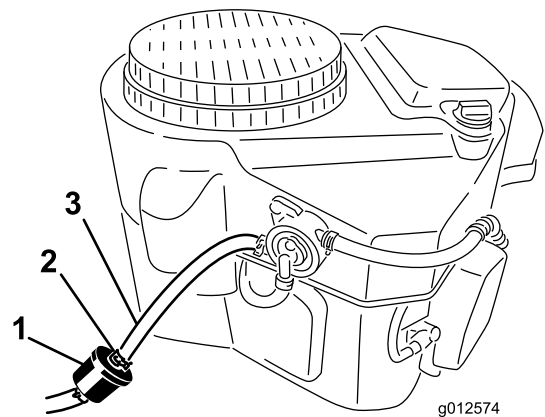

Figure 50
2. Clean around the fuel cap to prevent debris from getting into the fuel tank (Figure 50).
4. Squeeze the ends of the hose clamps together and slide them away from the filter (Figure 50).